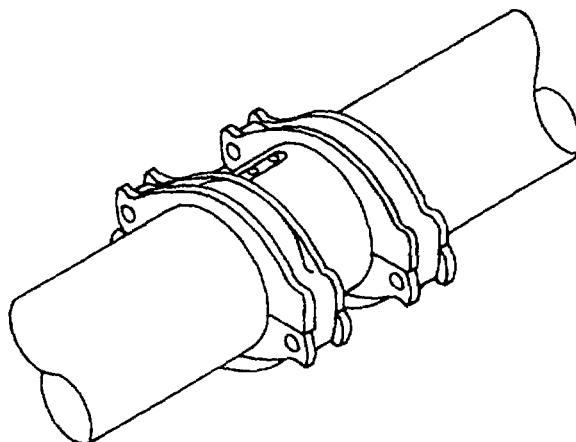

Figure 1-9. Swivel Joint
- (12) SWIVEL JOINT (Figure 1-9). Installed every 1000 feet to relieve any twisting in hoseline.